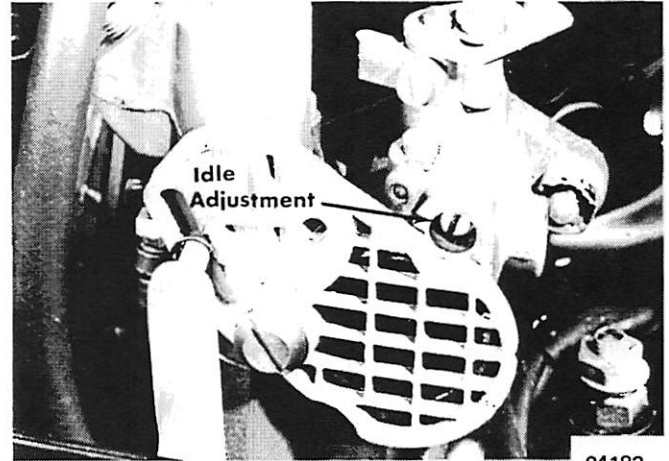

Figure 10. Idle Speed Adjustment
### IDLE ADJUSTMENT (Figure 10)
2. Start with all idle needles one turn open and adjust for maximum RPM with distributor retarded to give about 600-700 RPM. (Figure 10)
4. With engine running at idling speed while in forward gear, turn low speed mixture adjusting needle counterclockwise until affected cylinders start to "load up" or fire unevenly due to over-rich mixture. (Figure 10)